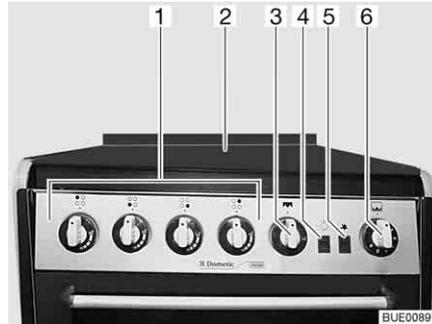

Fig. 153 Gas cooker with oven and grill
- Open the gas cooker lid (Fig. 153,2).
- Turn the control knob (Fig. 153,1) on the burner you wish to use to the ignition position (large flame).
- Press the lighting knob (Fig. 153,5) until there is a flame.
- ▷ The switch (Fig. 153,4) is used to turn the oven light on and off.
- Lightly press the control knob (Fig. 153,3) and turn to lighting position (large flame).
- Press the control knob (Fig. 153,6) slightly and turn it to an ignition position between 1 and 6.